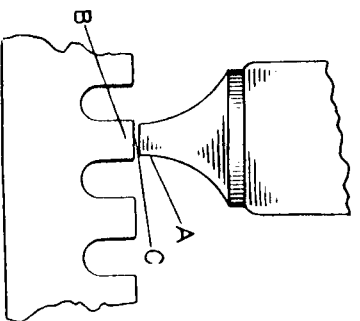
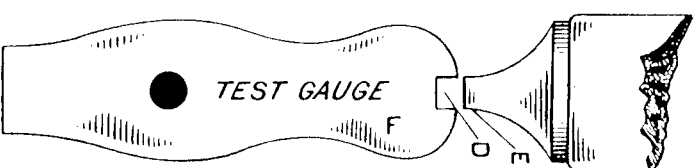

FIG. 5
FIG. 6
The test gauge (F, Fig. 6) for setting the feed guide and testing the feed and locking points, represents the correct distance from the feed point (A, Fig. 5) to the feed rack (B, Fig. 5) when the feed point (A) is in its highest position over the solid wall (C) as shown in Fig. 5. When in this position, the end of the test gauge (F) should pass between the feed point (A) and the top of the tooth (B) and should exactly fill the space (C, Fig. 5).
The feed and locking points should be replaced when the slot (D, Fig. 6) in the test gauge will slip on the feed point (E) as shown in Fig. 6.
Under no circumstances should the feed and locking points be continued in use when the test gauge slips over the points as explained above and shown in Fig. 6. If the points are used when worn to this extent, they will give an irregular jumping motion to the machine which is liable to bend the needle. They will also cause undue wear on other parts of the machine, which would have no perceptible wear if the feed and locking points were kept in good condition.